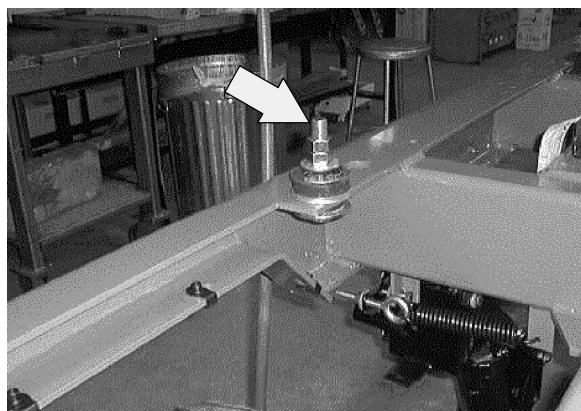

FIG. 1 - Rear Cab Mount Location
(Refer to FIG. 1, 2, 3, and 4)
1. Remove the M20 hex nut and washer from both rear corners of the cab. (Refer to FIG. 1)